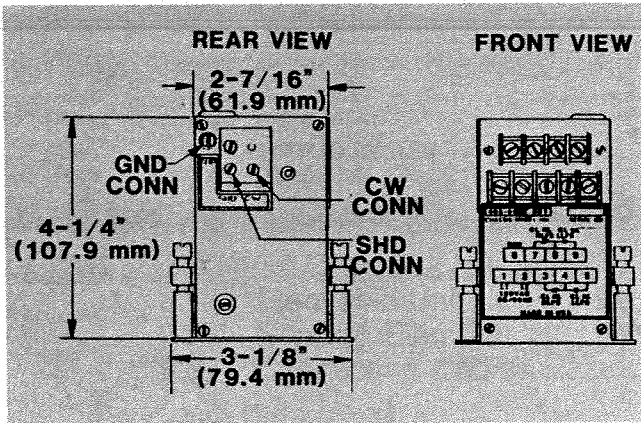

FIGURE 1-3
1.2.1 Electronic Units (See Figure 1-3.)